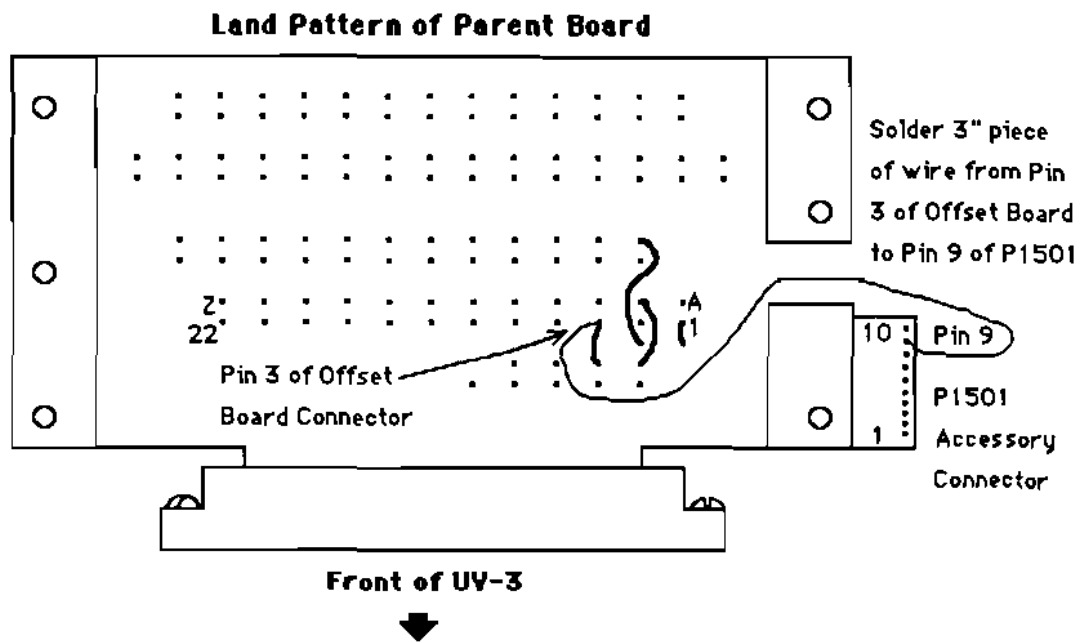

Figure 4 - Unbuffered COS Signal Location
A 3-inch wire should be added inside the bottom cover of the UV-3 to bring out the signal. Refer to Figure 4 to help find the location for the wire.
3. See Figure 4 to locate pin 3 of the offset board connector on the parent board. Carefully solder one end of the wire to that pin.